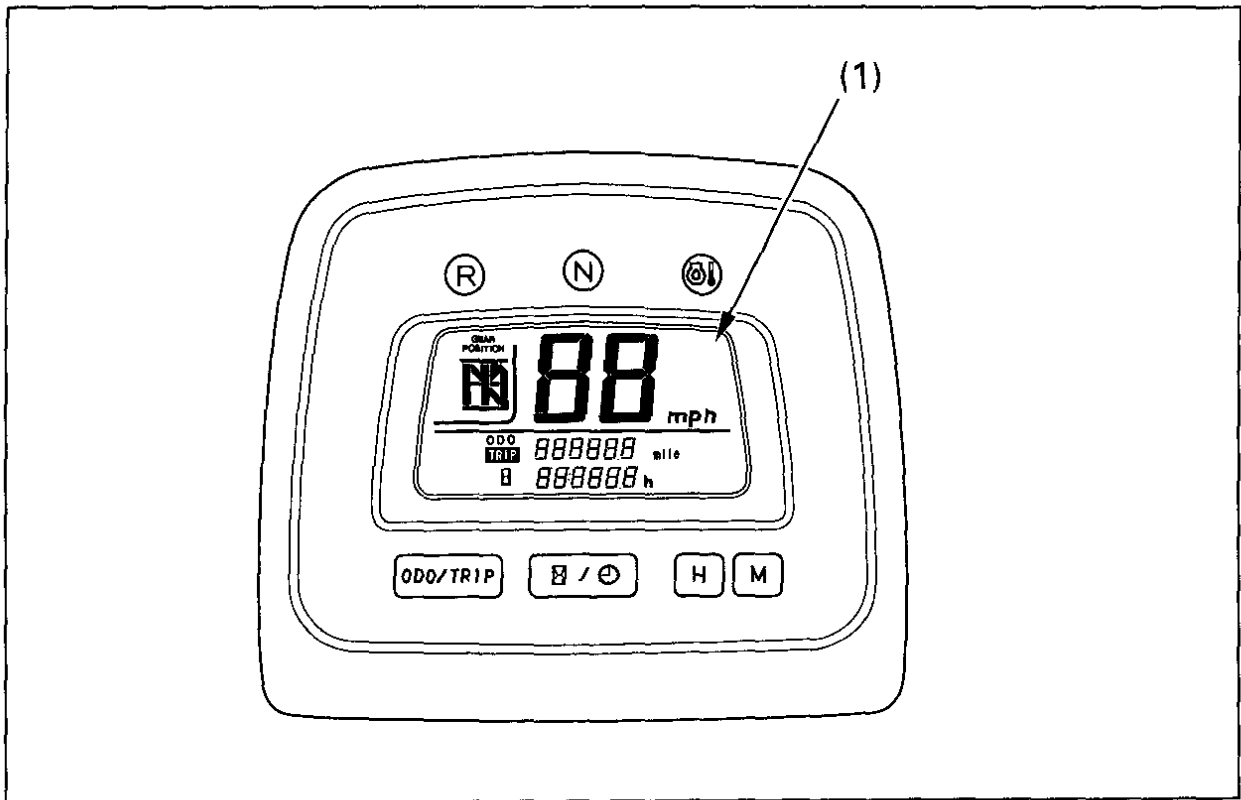

Fig. 2-15
When the ignition switch is turned ON (I), the display (1) (Fig. 2-15) will temporarily show all the modes and digital segments so you can make sure the liquid crystal display is functioning properly.